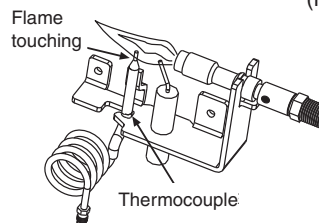

Fig. 30-4
1. The ODS pilot flame must be present when the burner is operating. The flame should touch the top of the thermocouple tip (Fig. 30-4).